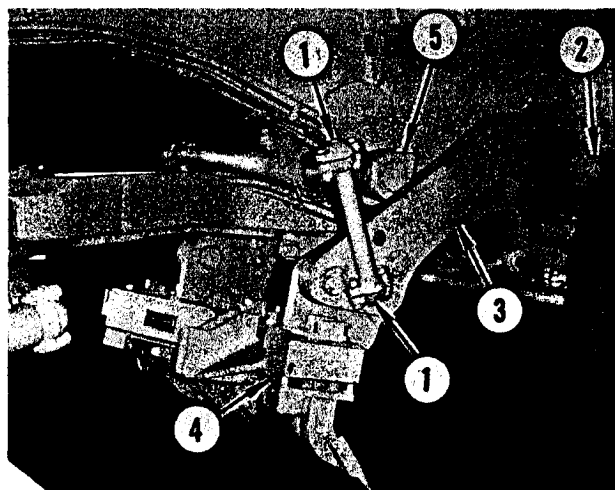

FIGURE 5. SCARIFIER REMOVAL
Refer to Figure 5. Remove lift link caps (1) from both lift links and remove links.